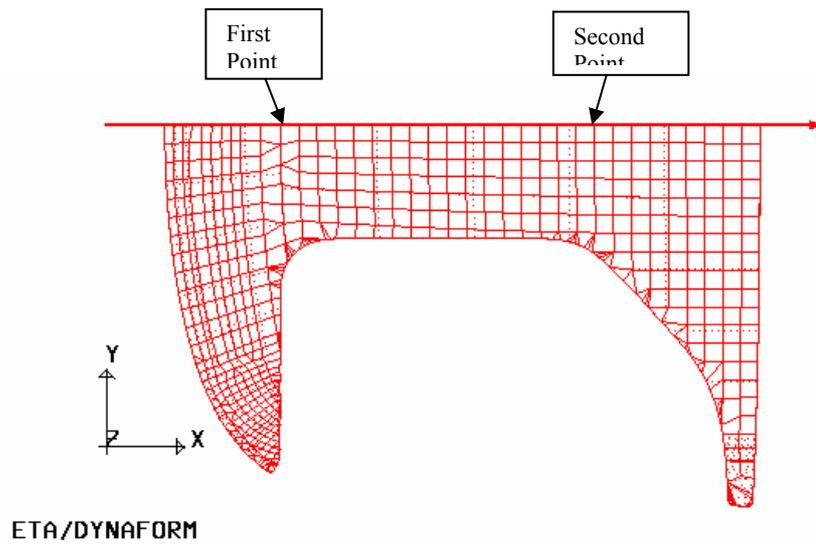
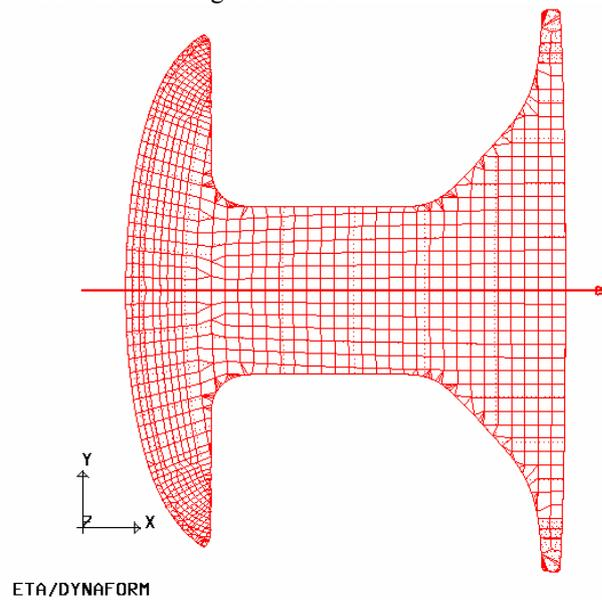

Figure 6.1.13 Half Symmetry Part With X-Z Plane
Figure 6.1.14 The Result of Mirroring
5. Click **MIRROR GEOMETRY SYMMETRY**, then select the part as shown in Figure 6.1.13. The result is shown in Figure 6.1.14.